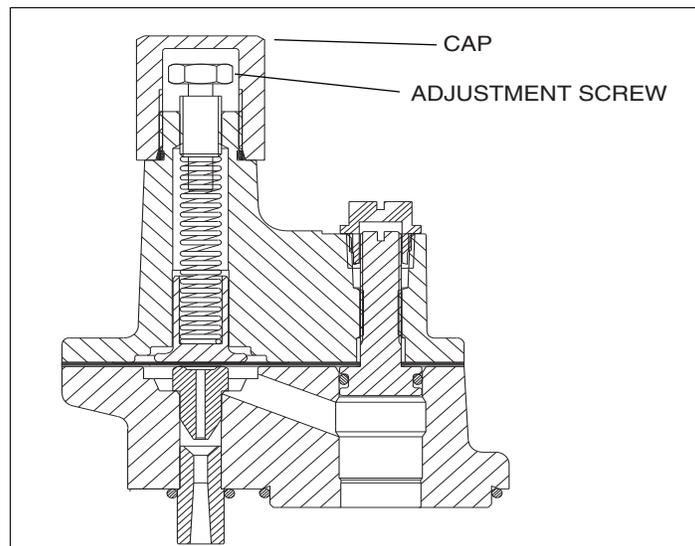

Figure 24. Functional Element Cap And Adjustment Screw
1. Remove the cap (see Figure 24).
2. Turn down the adjustment screw (see Figure 24). Tightening the screw clockwise will increase the pressure. When the adjusting screw is fully down, the relief pressure is approximately 30 psi (207 kPa). Fully up will result in relief pressures between 0 - 3 psi (0 - 20 kPa).
6. Remove the two lock-down bolts. To relieve pressure, rock the pump to allow excess pressure to flow into the tank or back out pressure adjustment screw (see Figure 24 on page 28).